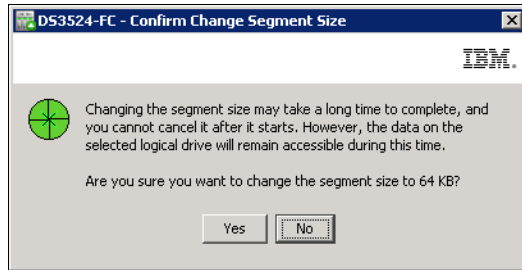

Figure 9-33 Segment Size warning
2. If you select a new segment size, a warning window shown in Figure 9-33 on page 251 opens.